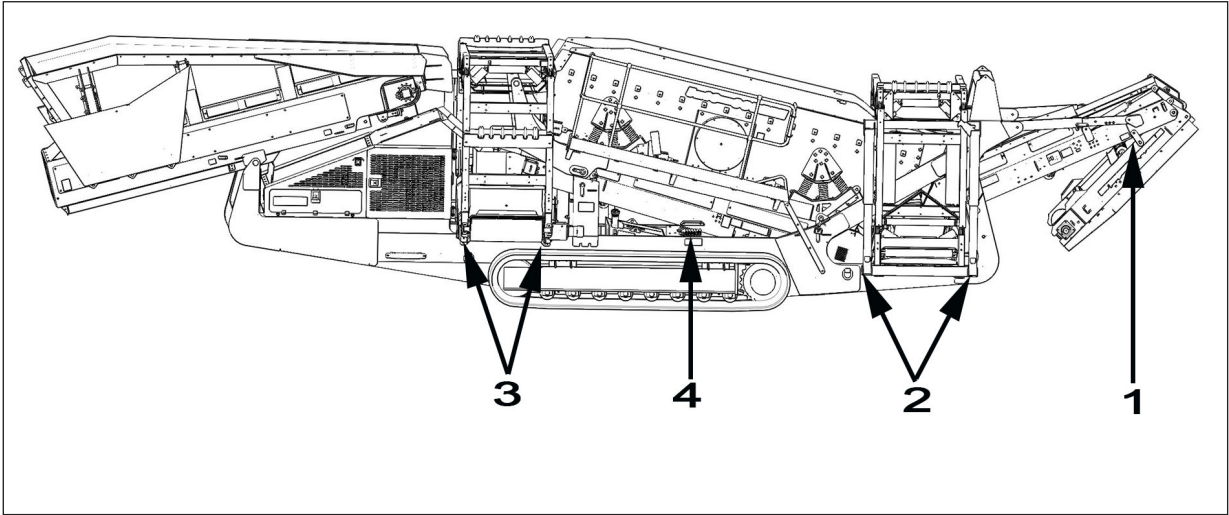

Figure 4.75 - Side Conveyor Setup
3. The valve bank controlling the head and mid sections of this conveyor is located on the RHS of the machine (Item 4, Reference: Figure 4.75).